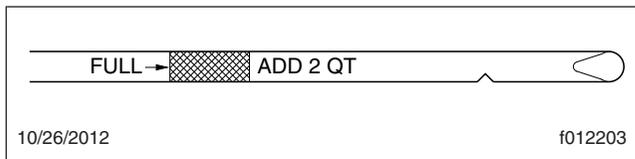
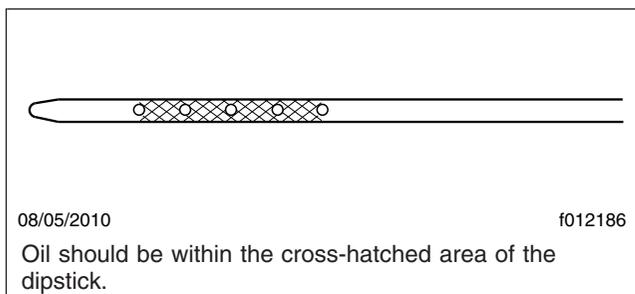

Fig. 12.2, Oil Dipstick (diesel engine)
Fig. 12.3, Oil Dipstick (propane engine)
- 6.3 If the oil is below the cross-hatched area, or the add mark, at the tip of the dipstick, add at least one quart (liter) of the recommended oil. See Fig. 12.2 for diesel engines and Fig. 12.3 for propane engines.